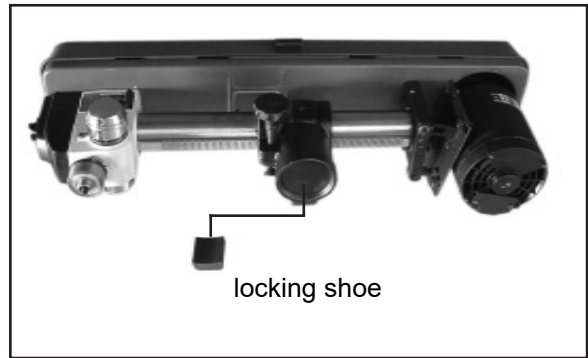

Figure 3
1. Place the locking shoe (part #15B) in the recessed pocket of the head. (Fig. 3)